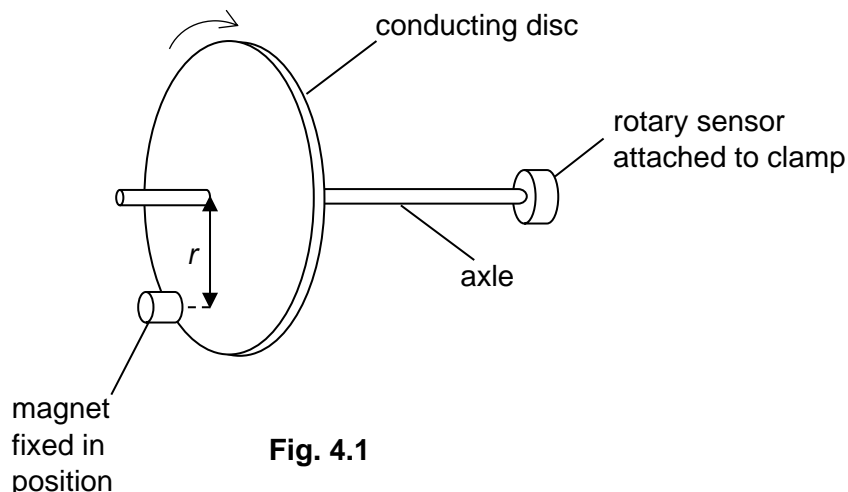

Fig. 4.1
- 4 Fig. 4.1 shows a setup used to illustrate the operation of an eddy current brake.